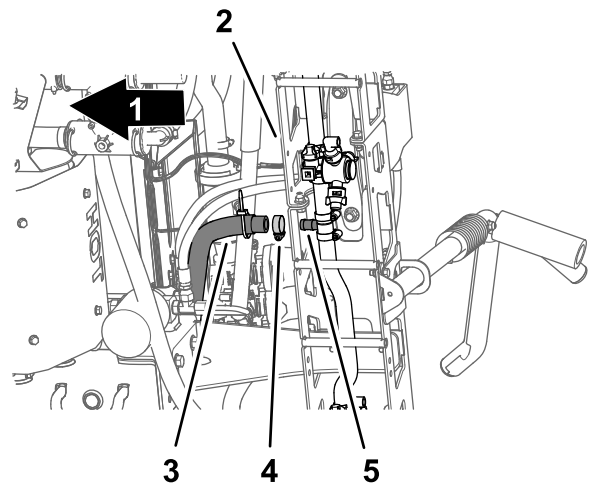

Figure 34
5. Under the center-spray section, remove the hose clamp that secures the supply hose for the center-spray section to the barbed T-fitting (Figure 34).